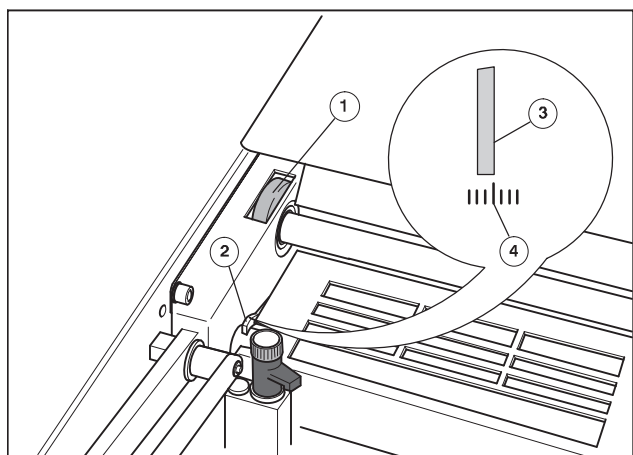

Fig. 18 Lateral register, PU 1
The printed image in PU 1 and PU 2 can be moved ± 2.5 mm to the side by turning the adjusting wheel (Fig. 18/1) at the feeder on O.S.
The adjustment is indicated on the scale (Fig. 18/2) in mm. Read off the value on the side of the indicator plate **turned towards** the paper (Fig. 18/3) (Fig. 18/4 = "zero" position).
1. Read the adjustment of the lateral register at the inside edge of the pointer on the scale (Fig. 18/4).